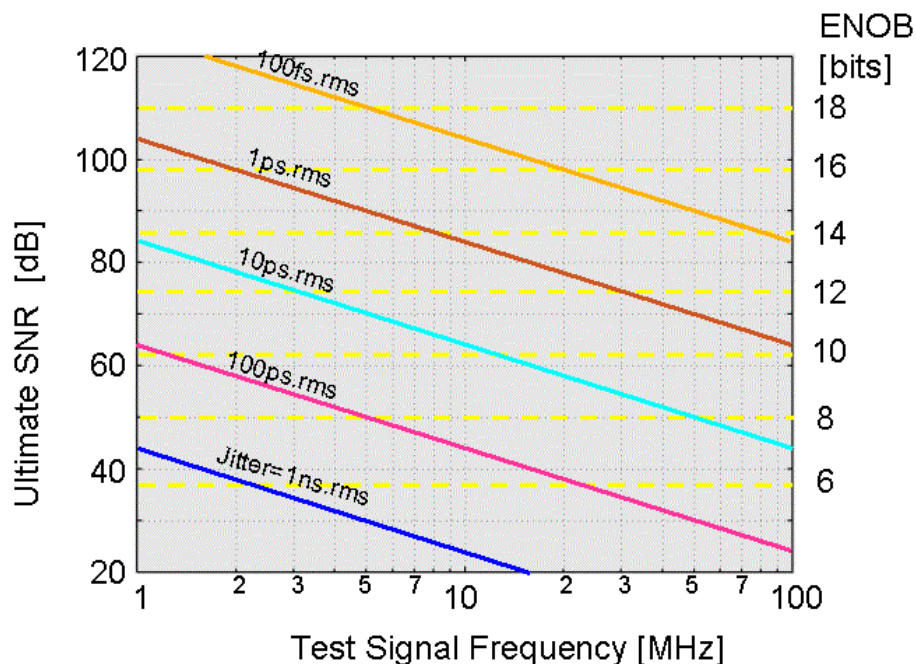
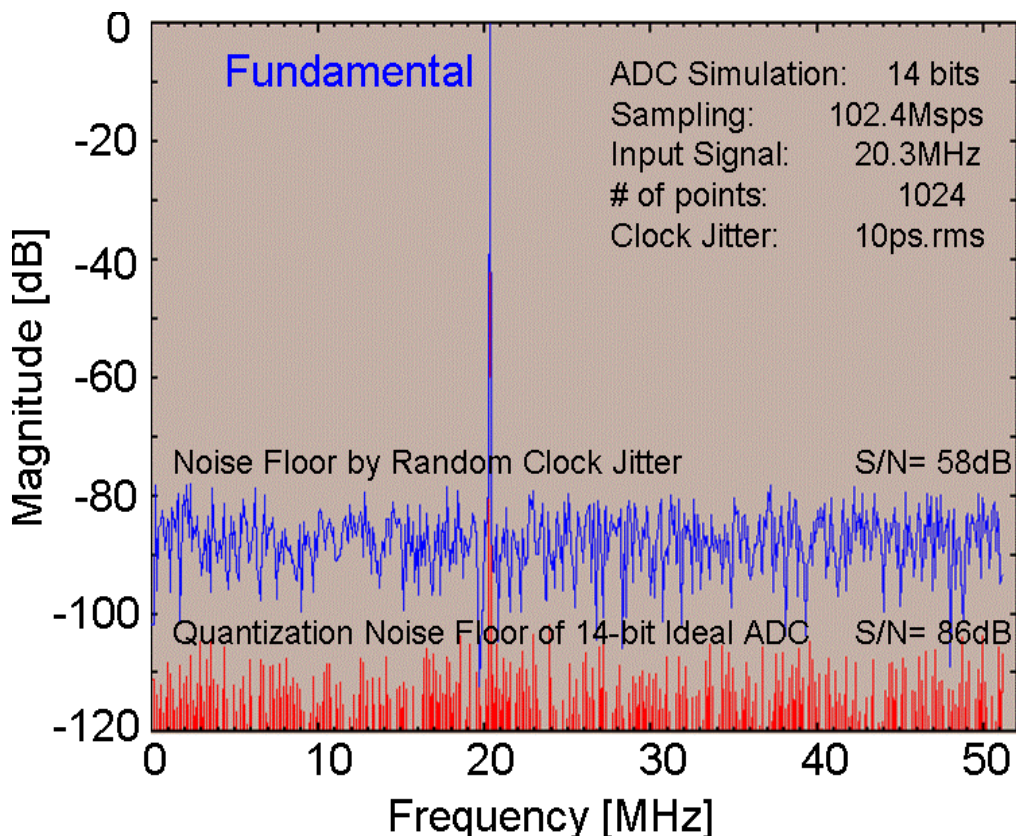

Figure 2: SNR and ENOB vs. Sampling Clock Jitter
Figure 3: Spectrum when ADC clock contains random jitter
Figure 2 is a graphical expression of Equation (7). When you are informed about the test signal frequency and the ENOB of a DUT ADC, you should promptly figure out the required jitter performance for the sampling clock according to Figure 2. For instance, when you need to test an ADC with 30MHz and 12 bits of ENOB, the sampling clock must have better performance than 1ps.rms of jitter.
Figure 3 demonstrates how the sampling clock jitter influences the ADC spectrum appearance. This is a simulation of 14-bit ADC so that the ultimate SNR is 86dB. The noise floor based on the quantization noise is colored red in the graph. The sampling rate is 102.4Msps and the test signal frequency is 20.3MHz. If the sampling clock contains 10ps.rms of random jitter, the noise floor is raised as blue line so that the SNR degrades to 58dB. Then ENOB is deteriorated to 9.3 bits. (See Figure 2)
Actually this is very similar to Equation (7) so that the effect can be presented in the same graph as Figure 2. In the case of random clock jitter, the effect appears as the raised noise floor. However phase noise of the test signal is a kind of phase modulation, the effect would appear as the residual side lobe in the vicinity of the fundamental tone.